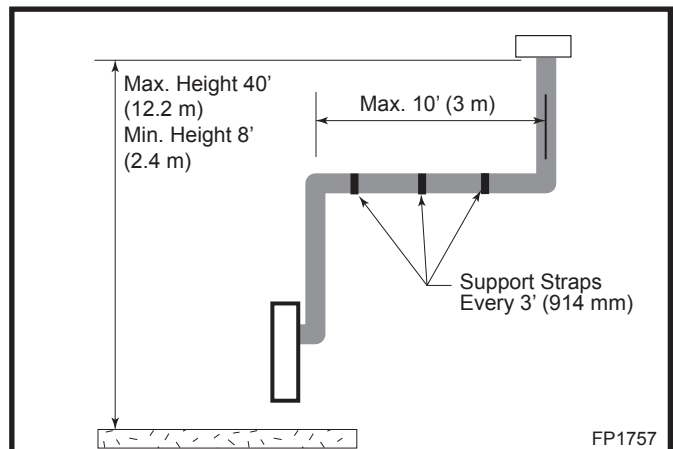

Fig. 25 Support straps for horizontal runs.
- Vertical installations up to 40' (12 m) in height. Up to a 10' (3 m) horizontal vent run can be installed within the vent system using a maximum of two 90° elbows. (Fig. 25)